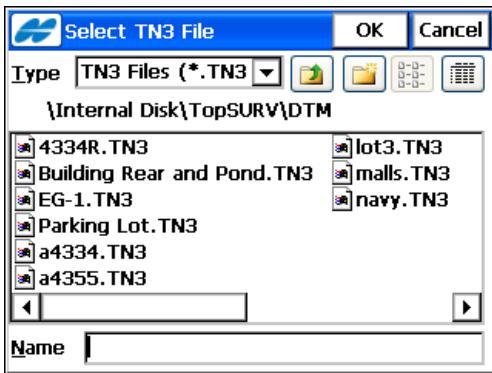

Figure 4-40. Select TN3
- **Select TN3 file** for Surfaces (Figure 4-40 on page 4-34)
On the **Select TN3** screen (Figure 4-40), select a destination directory and the name of the created file.